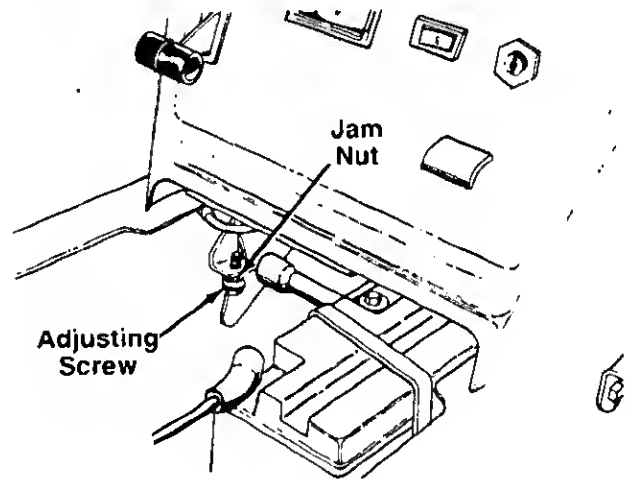

FIGURE 19.
2. Using a 1/2" wrench, loosen the jam nut. See figure 19.